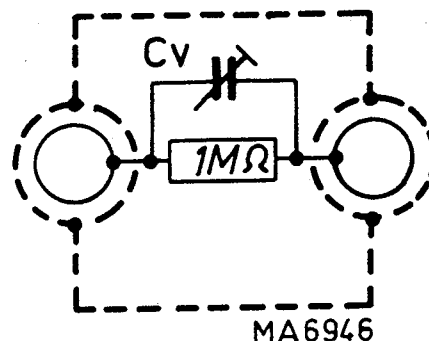

Fig. 3.16. 2:1 Dummy probe
- Set YA (B) AMPL/DIV switch to 2 mV.
- Release 0 pushbutton YA (B).
- Apply a voltage of exactly 12 mV p-p, 10 kHz, to YA (B) input socket.
- Check that the vertical display height is exactly 6 divisions; if necessary, readjust potentiometer 472 (532).
- Release the 0 pushbutton YA (B).
- To equalize the input capacitance in all positions of the AMPL/DIV (i.e. attenuator) switch, for some adjustments, a 2:1 dummy measuring probe is connected in series with YA (B) input socket. The dummy probe consists of the parallel circuit of a 1 M Ω resistor and a 3-60 pF trimmer (Fig. 3.16.) and is adjusted as indicated in the following table.
- Connect a square-wave voltage with an amplitude as indicated in the following table, a repetition rate of 10 kHz and a rise time not exceeding 100 ns to YA (B) input socket.